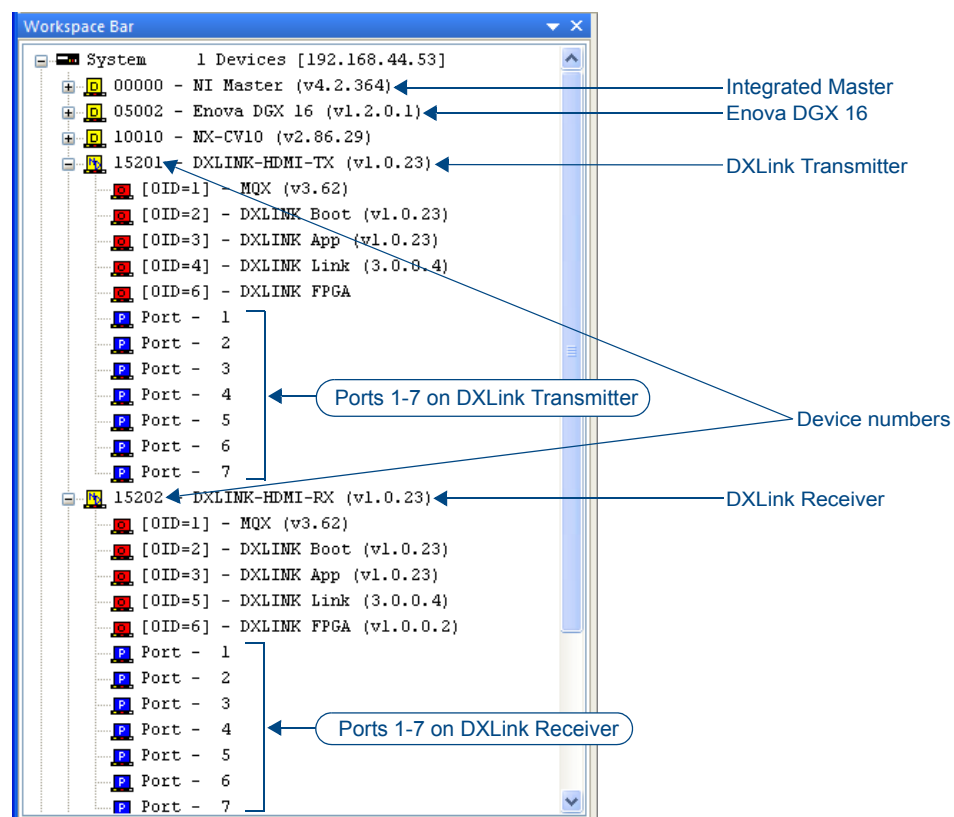

FIG. 34 NetLinX Studio – Integrated Master, Enova DGX 16, DXLink Transmitter, and DXLink Receiver
When a Transmitter and/or a Receiver are being used in conjunction with a switcher as an endpoint system, the switcher's integrated Master is used for the KIT file transfer. FIG. 34 shows a Transmitter and a Receiver bound to the integrated Master in an Enova DGX 16 in NetLinX Studio's OnLine Tree. Follow the instructions on the top of page 96 to prepare an endpoint system for KIT file transfer and the instructions on page 98 for the actual transfer.
7. Determine the Device Number assigned to the target Transmitter or Receiver when it was bound. For the Device Number location, see FIG. 34 on page 95. The Transmitter or Receiver is ready for the KIT file transfer.
7. Right-click in the workspace and select Refresh System OnLine Tree. The Module will appear in the OnLine Tree and locate the DXLink Module and the virtual device ID assigned to it (32002 in the example). For the Device Number location, see FIG. 34 on page 95.